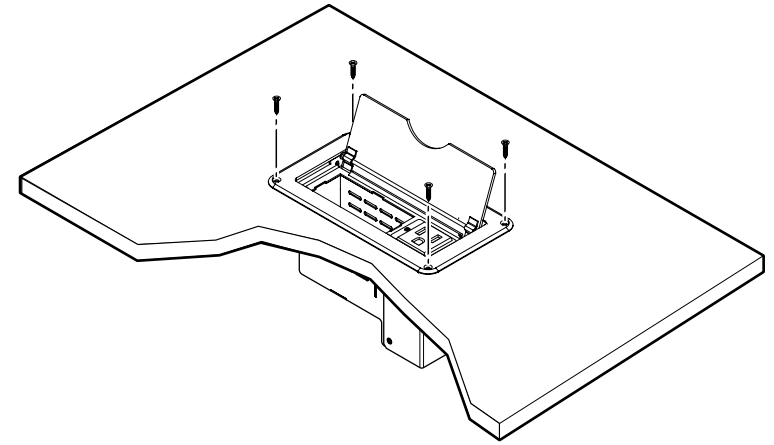

Figure 2-8 — Cable Cubby, installation view
- Cable Cubby 200** — Use the four included 6-32 x 1/2" screws to fasten the Cable Cubby 200 to the table (figure 2-8).